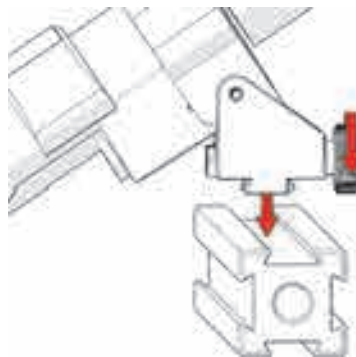

Figure 4-125 Mount on frame bar
2. Mount the laser guide on the frame bar, and then tighten the laser guide knob (see Figure 4-125 on page 187).